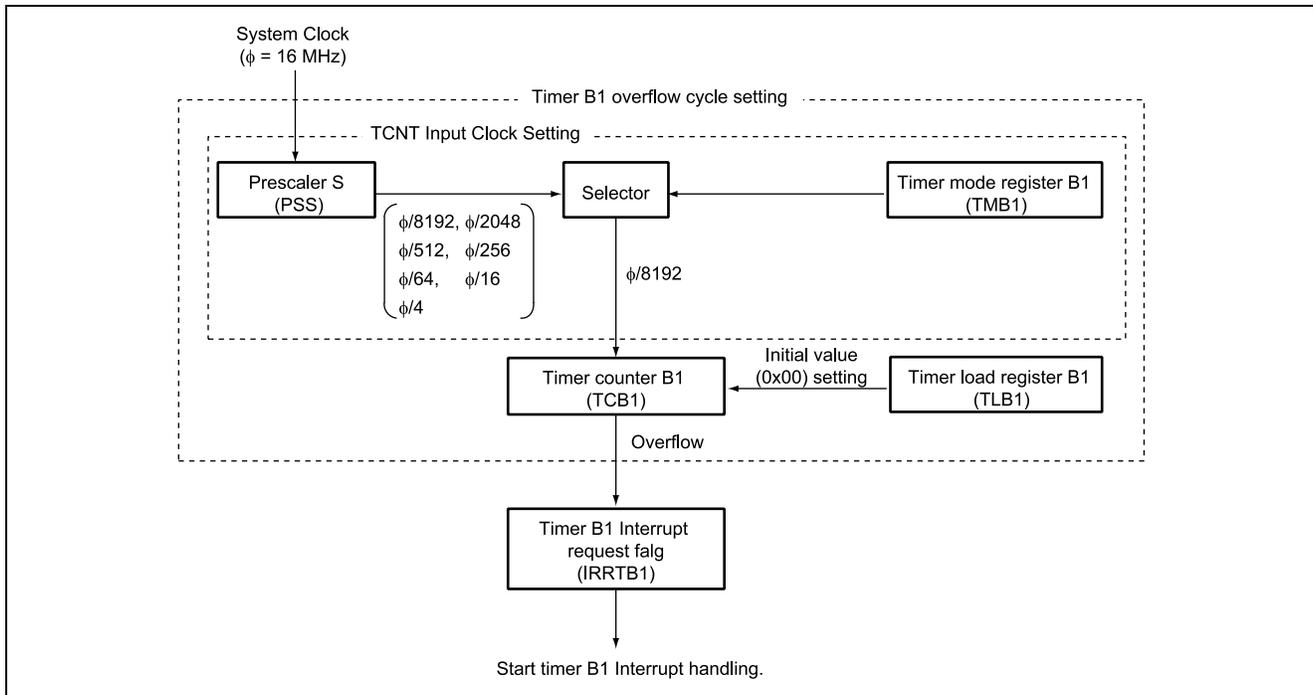

Figure 2.1 Timer B1's Interval Timer Function
1. In this sample task, the 8-bit counter is incremented by the interval timer function of timer B1. Figure 2.1 is a block diagram of the interval timer function of timer B1. The elements of the block diagram are described below.